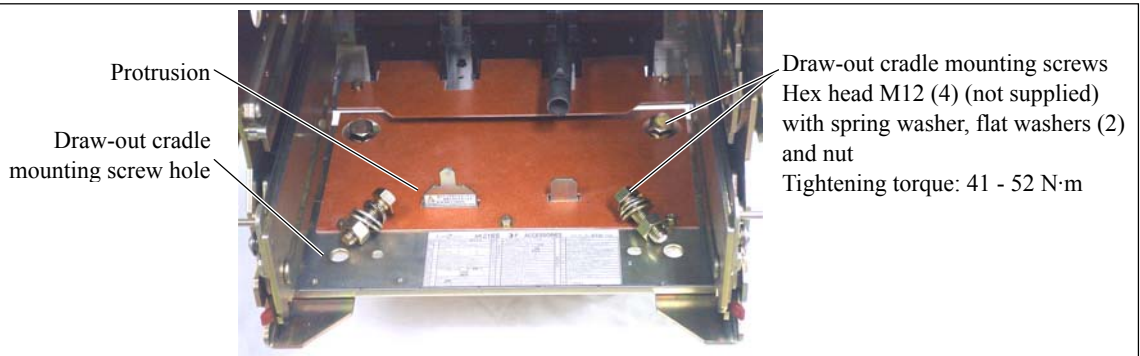

Fig. 4 Protrusion on the bottom of the draw-out cradle
- Fix the draw-out cradle of the ACB firmly on a flat, level surface using mounting screws. Otherwise, the draw-out operation may cause the breaker body or the draw-out cradle to fall, resulting in damage to the ACB or personal injury. Take care not to deform or bend protrusions in the bottom face of the draw-out cradle when fixing the draw-out cradle with mounting screws. Deformation of the protrusions may cause a malfunction (see Fig. 4).